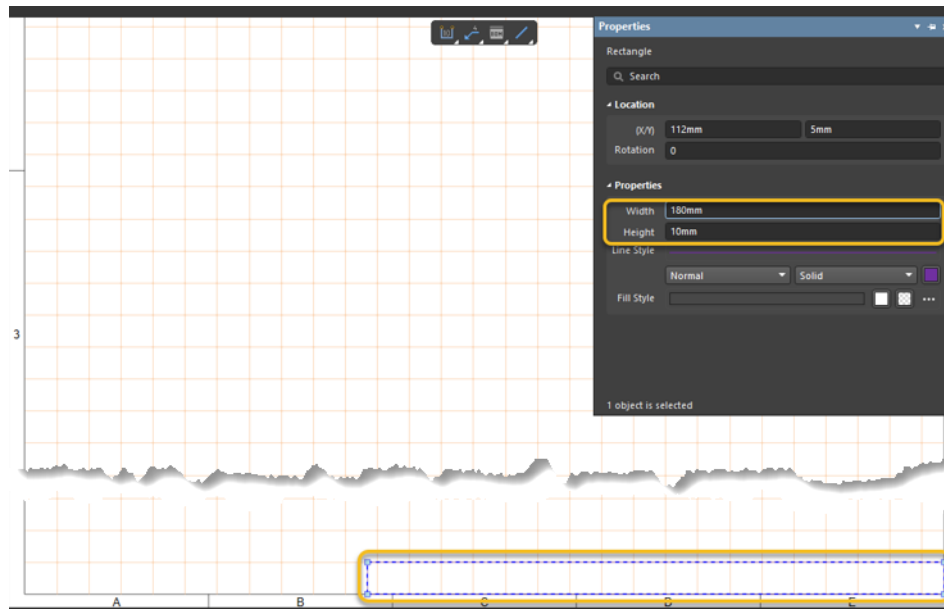

Figure 6. Placing a rectangle and setting its dimensions
17. Place a rectangle, using **P»R** shortcut. Start at the lower right corner, moving your mouse to the upper left with the dimension Height: 10mm, Width 180mm, Figure 6.